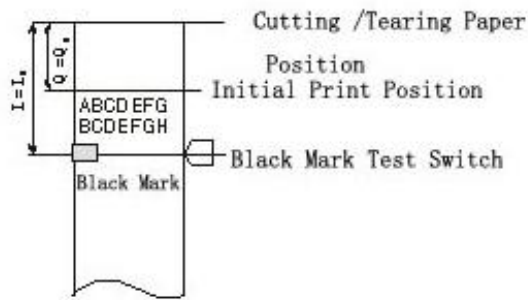

Fig 1
1. When the distance  $L$  from cutting/tearing paper position to black mark print position is same to the inherent mechanical value  $L_0$  of the printer's structure, furthermore, the distance  $Q$  from cutting/tearing paper position to initial print position is same to the inherent mechanical value  $Q_0$  of the printer's structure (as Fig. 1 shows), all the offsets set by GS ( F command are 0.